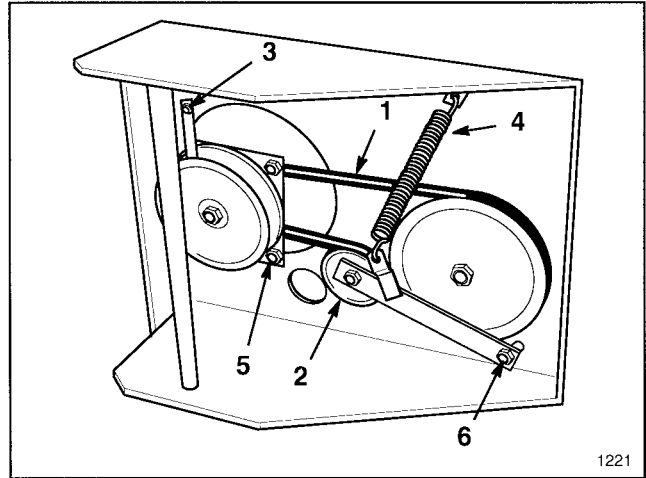

Figure 23
2. Disconnect electric clutch in-line connector from wiring harness. (Fig. 23).
3. Remove left front engine mounting bolt securing clutch retainer to frame. Unhook retainer from clutch and remove (Fig. 23).
4. Unhook tension spring from side of frame (Fig. 23).
7. Install pivot bolt in idler arm. Torque mounting bolt to 35-40 ft-lb. Install tension spring between idler arm and frame bracket (Fig. 23).
8. Install belt around idler pulley (Fig. 23).
1. To adjust clutch, tighten or loosen locknuts on flange studs. (Fig. 23).